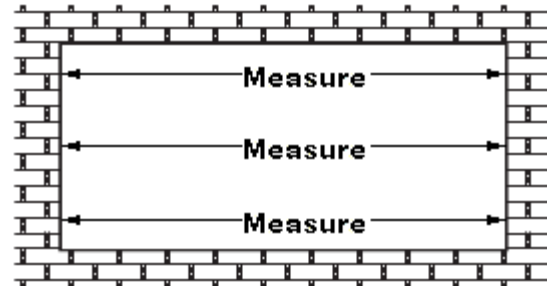

Figure 3
3. Measure the opening width at a minimum of three places as shown in figure 3. Be sure that measurements are taken on horizontally level planes. The smallest of these measurements is referred to as the R.O. (rough opening) width, or M.O. (masonry opening) width.